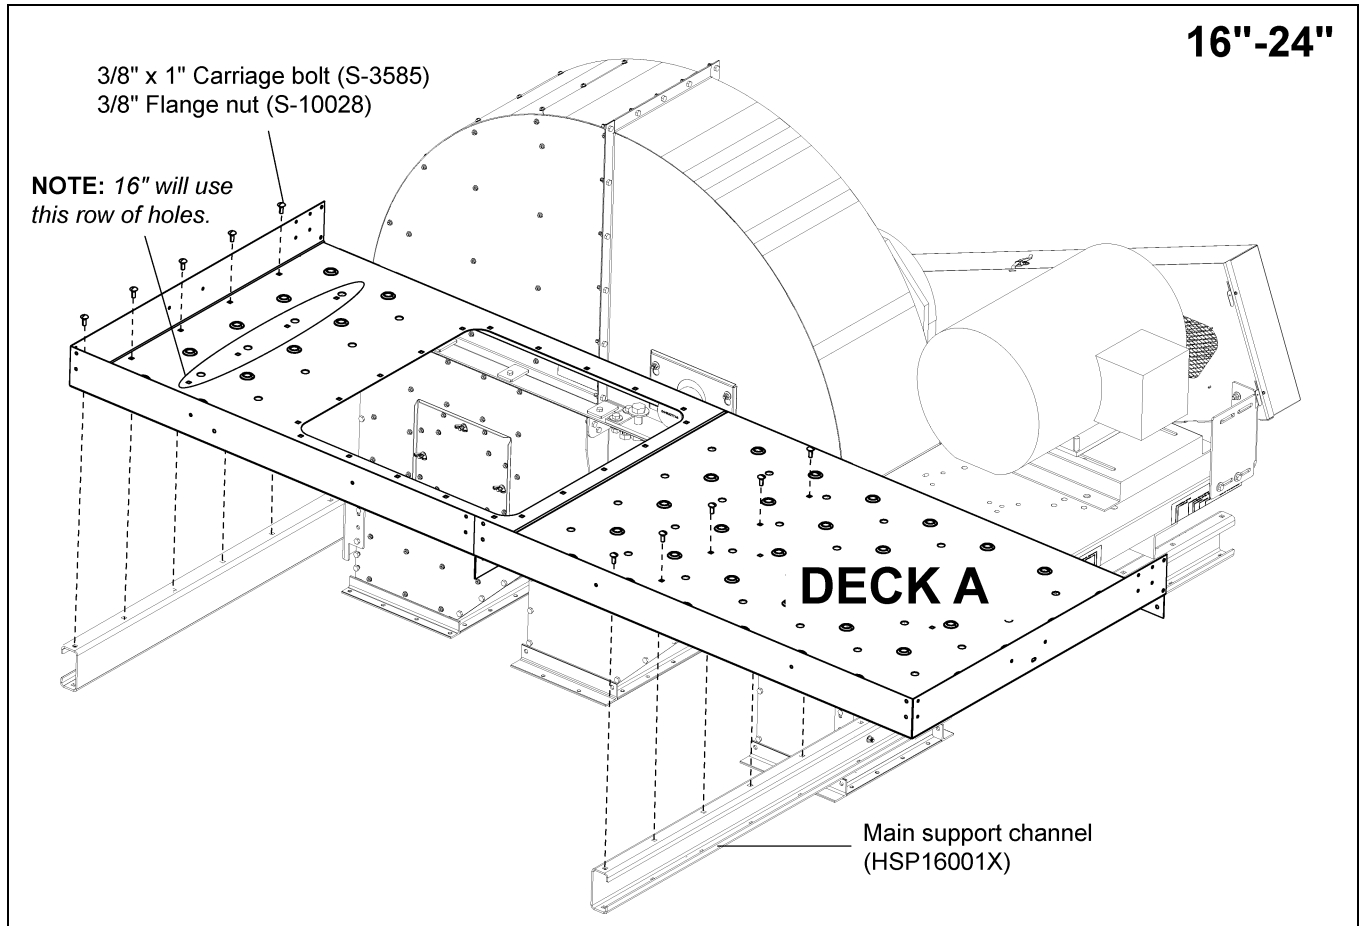

Figure 7C Deck A to Support Channels
1. Using 3/8" x 1" carriage bolts (S-3585) and 3/8" flange nuts (S-10028), connect Deck A to main support channel. **IMPORTANT:** Connect every hole. (See Figure 7C.)